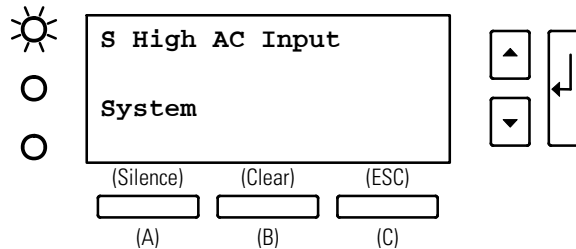

Figure 61. Typical System Active Alarm Display
Figure 61 shows a typical alarm display. Alarms are annunciated by a constant Alarm LED and a constant beep. During alarm display, button (A) silences the audible alarm, button (B) clears the alarm display, and button (C) performs the normal Escape function to exit from the alarm display. The  button lets you scroll through all alarms.